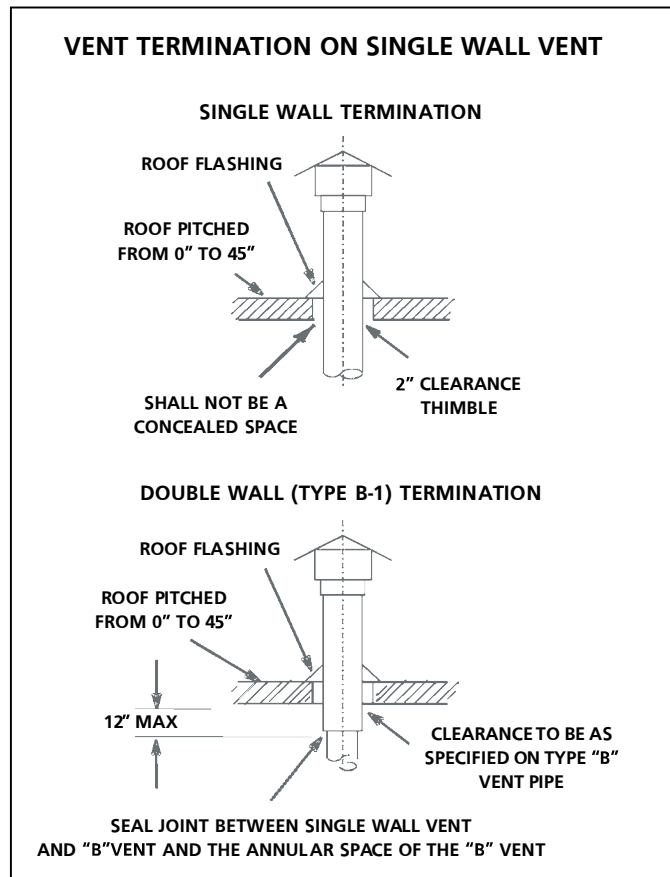
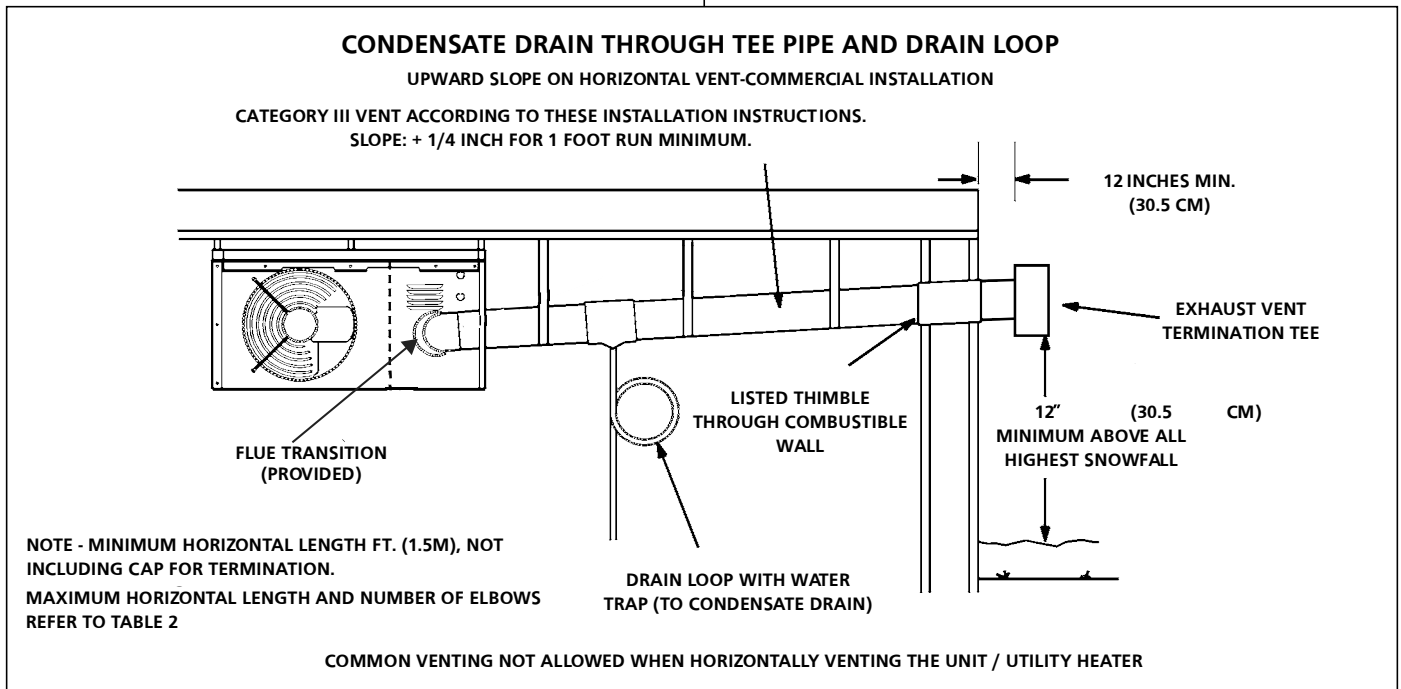

FIGURE 2
FIGURE 3
1. MHU unit heaters are to be used with NFPA- or ANSI-approved chimneys, U.L. listed type B-1 gas vents, single wall metal pipe, or listed chimney lining system for gas venting where applicable, as well as the modifications and limitations listed in **figure 2**. Seal single wall vent material according to the section **A - General Recommendations and Requirements**.
- When termination is routed through an exterior combustible wall the vent must be supported using a listed clearance thimble. Seal the connection between the single wall and double wall pipes and the annular space of the double wall pipe as shown in figure 2. Inside edge of vent termination tee must be at least 12 inches from outside wall as shown in figure 3.
Venting A - General Recommendations and Requirements and **C - Horizontal Venting General** and **D - Horizontal Venting - Commercial**. Refer to figure 3.